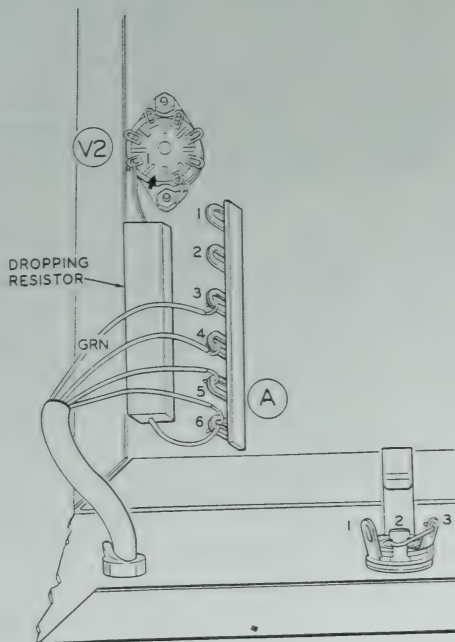

Figure 1
- () Disconnect the green wire of the power cable from lug 2 of terminal strip A, then reconnect this wire to lug 3 of terminal strip A. See Figure 1.
- () Clip out the bare wire connected between lugs 2 and 3 of the KEY jack. See Figure 1.